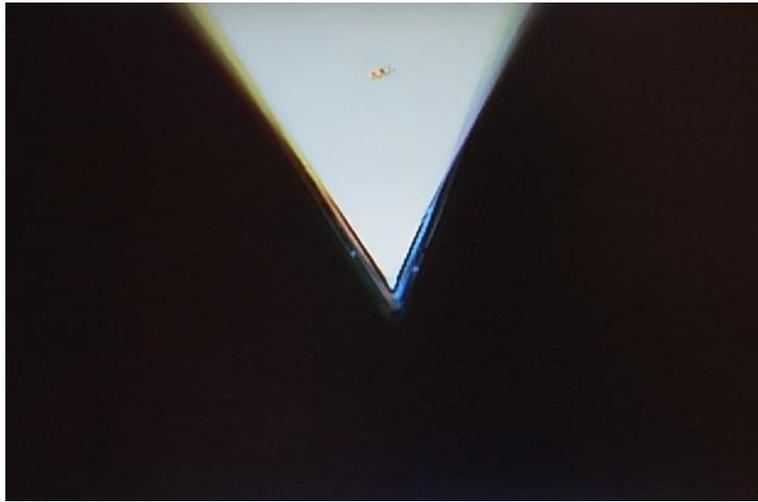

Fig. 8-29. Objective focused on the end of the cantilever
6. Focus the objective on the end of the cantilever by turning the screw 3 (see Fig. 8-29). Monitor the focus on the image of the optical viewing system.